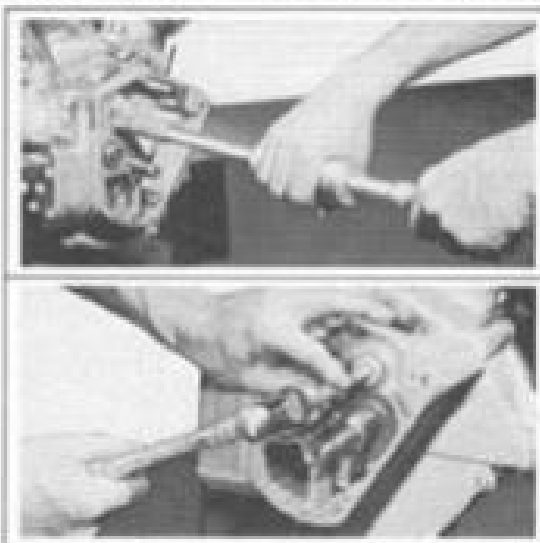

Figure 3-29. Removing and Installing Cam Gear Needle Bearing
2. Inspect oil screen (4) carefully to make sure mesh is open. Holding screen to light is not an absolute check. It is possible for oil screen to be plugged or partially plugged with tiny fin-like fibers and still permit light to pass. Replace plugged or partially plugged screen.
4. Inspect cam gear oil seal (34) in cover to see that lip is in good condition.
6. Inspect needle bearing (35) for wear, broken or gouged bearings. If end of cam shaft shows any appreciable wear (0.003 in. or more), needle bearing is probably worn to a point where replacement of bearing and cam shaft are advisable.
7. Needle bearing can be removed and installed in crankcase without disassembling crankcase with Puller Tool, Part No. 95760-08 as shown in figure 3-29. Press needle roller bearing into crankcase with Tool, Part No. 97272-00 as shown in figure 3-28. Press from heavier end having the manufacturer's name only. Pressing from opposite end will crush roller race and bind rollers. Pinion shaft main roller bearing may be replaced only when crankcase is disassembled (see "Disassembling Crankcase").